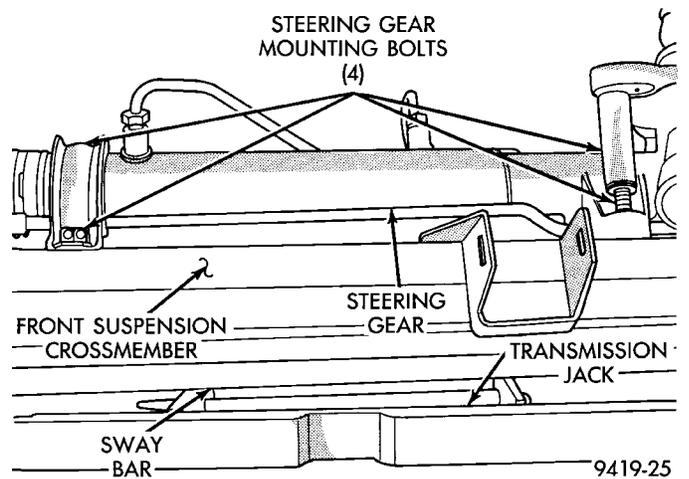

Fig. 15 Steering Gear Assembly Mounting Bolts
(14) Loosen and remove the 4 bolts (Fig. 15), attaching steering assembly to front suspension crossmember. Then remove the steering gear assembly from the front suspension crossmember.
(15) Transfer required parts from removed steering gear assembly to the replacement steering gear, if a new steering gear is being installed.
(1) Install steering gear assembly on front suspension crossmember. Install the 4 steering gear assembly to front crossmember mounting bolts (Fig. 15). Torque the 4 steering gear mounting bolts to 68 N-m (50 ft. lbs.).